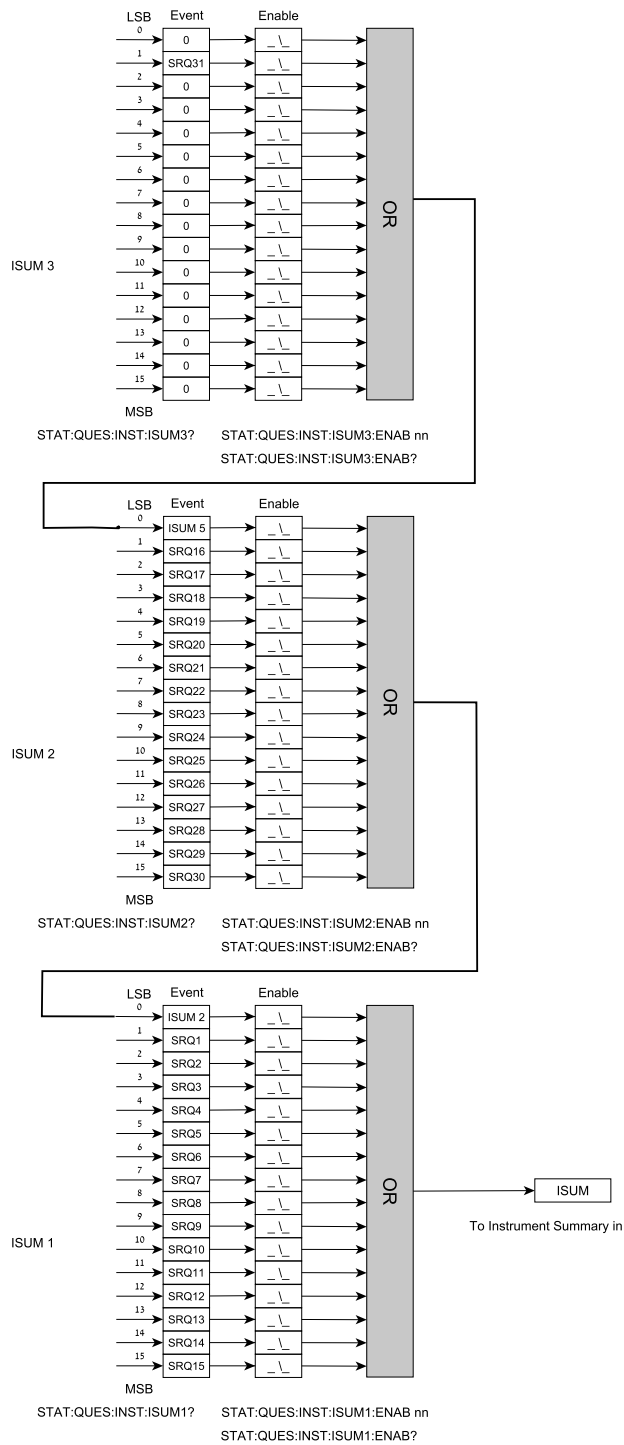

Fig.4-2: Instrument Summary Register Tree for Multi Drop Mode
3. In the right window, click on Instrument0 and review the device properties. Refer to Fig.4-2